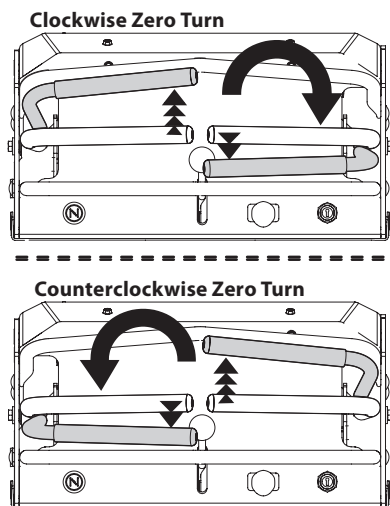

Fig. 15
2. To turn clockwise, move the left drive control lever forward while simultaneously moving the right drive control lever rearward (Fig. 15).
3. To turn counterclockwise, move the right drive control lever forward while simultaneously moving the left drive control lever rearward (Fig. 15).